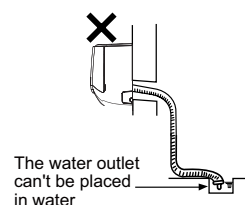

Fig.27
- (3) The water outlet can't be placed in water in order to drain smoothly. (As show in Fig.27)